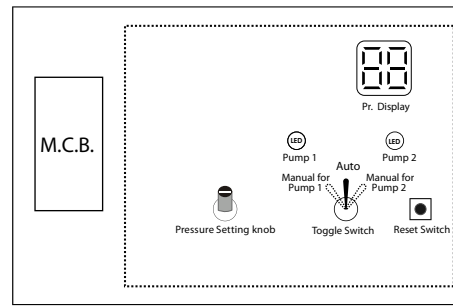

Fig. 2 Control Panel
4. Control Panel's (fig.2) functions are described below
- ① **Set Point** - The Set point of the pressure is set by turning the pressure setting knob. On turning the knob, display starts blinking and shows the set-point. It again shows the actual pressure when it is left idle for 15secs.
- ② **Auto Mode** - Pump switches OFF when the pressure exceeds the set-point and is switched ON, as the pressure goes below (one bar) the set-point. If the pressure is not achieved in 15mins, the pump will switch OFF and after 1min Pump 2 will start to achieve the required pressure.
- ③ **Manual Mode** - Operation can be switched from Auto mode to Manual mode for Pump 1/ Pump 2 by the toggle switch. In manual mode pump operates continuously for 30mins, then stops for 10mins before restarting.
- ④ **Alarm** - A NO contact of relay is provided for the alarm which closes when a alarm is raised. In case of alarm, press reset key to clear alarm or switch OFF & then switch ON the mains.